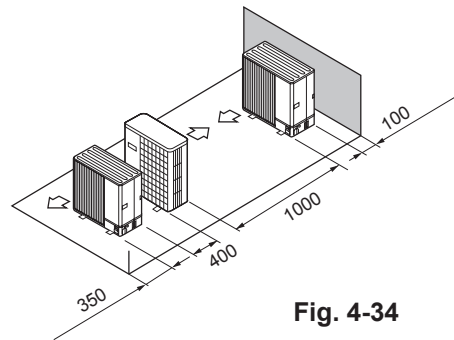

Fig. 4-34
- ⑤ Single parallel unit arrangement (Fig. 4-34)